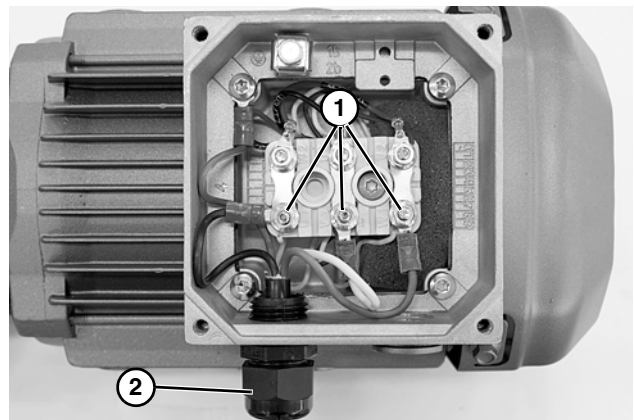

Figure 23
2. Record wire colors on terminals 1, 2 and 3 (**Figure 23, item 1**). Loosen terminals and remove wires.
3. Loosen cord grip (**Figure 23, item 2**) and remove power cord.